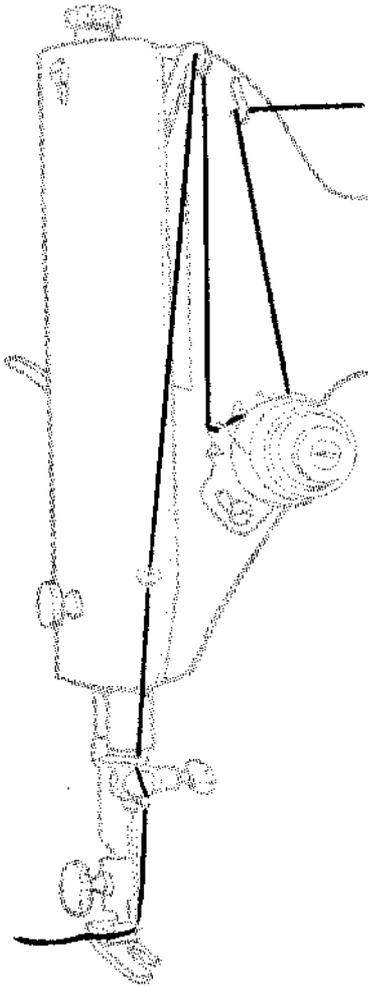

FIG. 26.
- Thread machine as shown in Fig. 26.